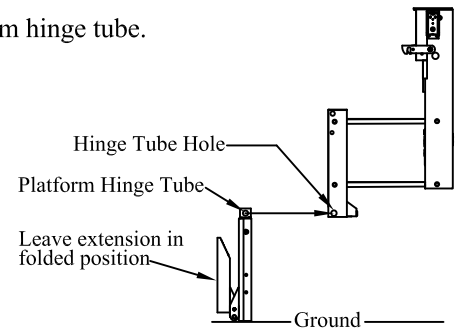

Figure 7: Platform and sub-assembly.
1. Place the platform on end and support it to keep the platform from falling over (Figure 7).
2. Position the platform so that the platform hinge tube is aligned with the sub-assembly hinge tube holes (Figure 7).